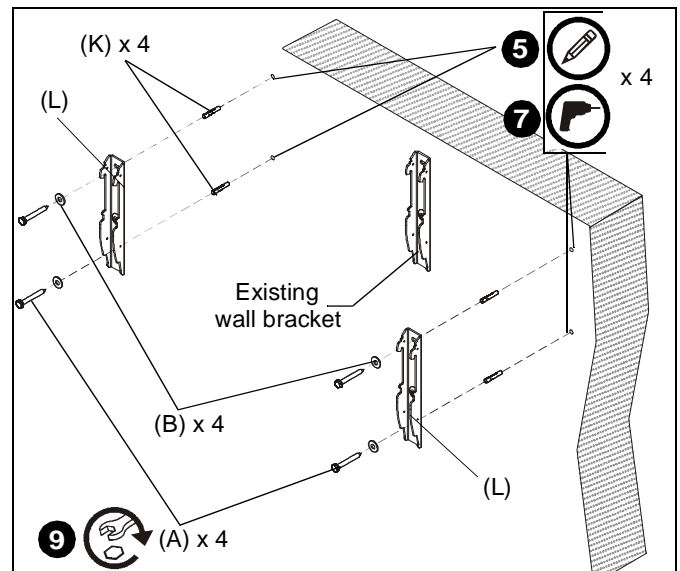

Figure 2
5. Using wall bracket (L) as a template, mark two holes at holes in bracket. (See Figure 2)
6. Using a level, mark holes for second wall bracket (L) on opposite side of existing wall bracket. (See Figure 2)
7. Drill 3/8" holes at marked locations in wall. (See Figure 2)
8. Install four concrete anchors (K) into drilled holes. (See Figure 2)
9. Install four 5/16 x 2-1/2" hex head lag screws (A) through four 5/16" washers (B), holes of wall bracket (L) and into concrete anchors (K). (See Figure 2)